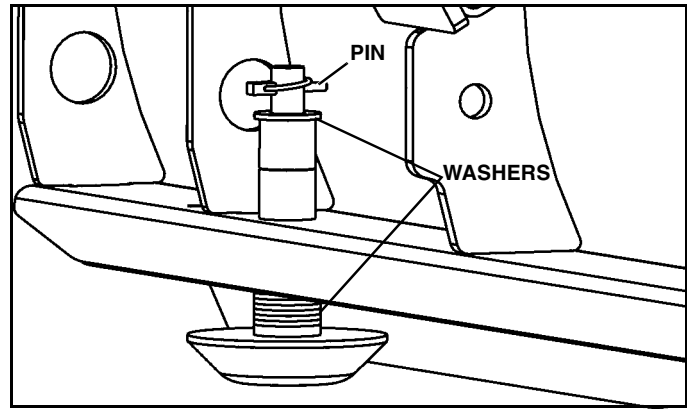

Figure 1-42
4. Adjust shoe assemblies by removing shoe mounting lynch pin and adding or subtracting washers on the top or bottom of the shoe-mounting bracket. (See Figure 1-42).